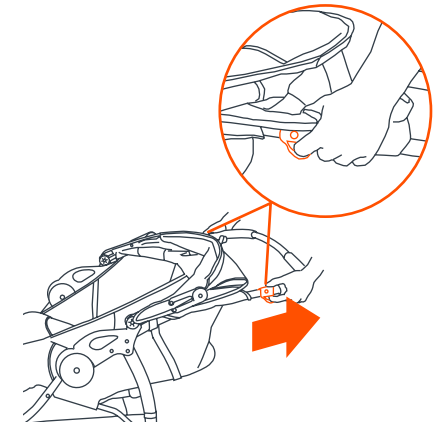
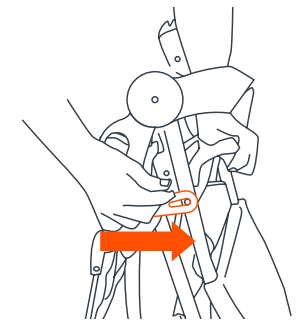

Fig. 18a
Fig. 18b
• The stroller is folded by simultaneously pulling each trigger fold (Fig. 18a). When the fold latches are released, the handle will begin to fall toward the floor. Release the fold buttons and press downward on the stroller handle until the stroller is completely folded. Secure the stroller in the folded position by locking the fold latch, located on the right side of the stroller, over the rivet that protrudes from the frame (Fig. 18b).